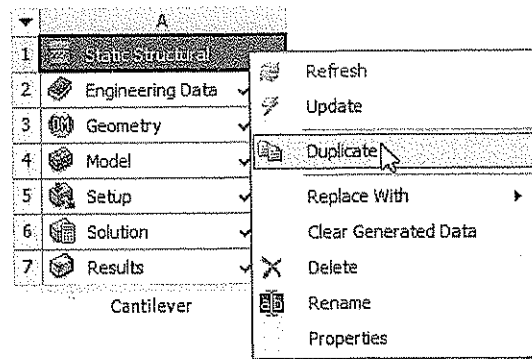

Figure 9-23 Choosing **Duplicate** option from the shortcut menu
3. In this shortcut menu, choose the **Duplicate** option, as shown in Figure 9-23; the **Copy of Cantilever** analysis system is created in the **Project Schematic** window.